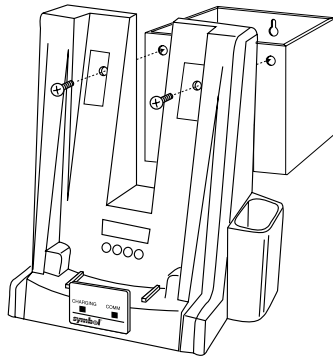

Figure 2-5. Secure Cradle to Bracket
6. Secure the cradle to the bracket using two #10 metal screws (Figure 2-5).